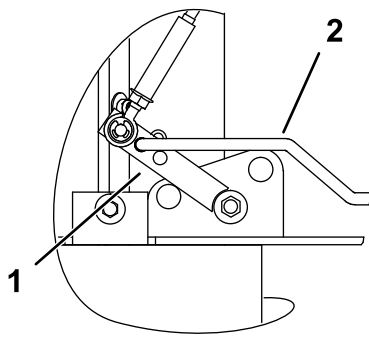

Figure 5
3. Screw the PTO engagement linkage rod into the power unit bell-crank yoke and then connect the other end to the assist arm and secure it with the hairpin cotter (Figure 5).